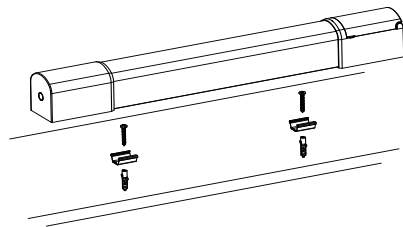

**Fig 3**
- Wire the mains cable ensuring correct polarity is observed - Live (brown), Neutral (blue) and Earth (green and yellow) (see Fig 3)